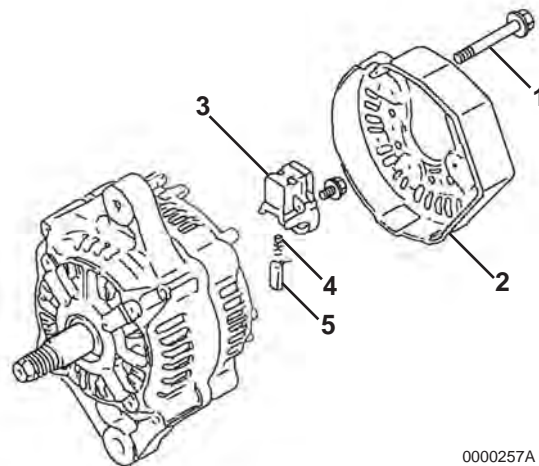

Figure 11-6
2. Remove the three bolts (**Figure 11-6, (1)**) retaining the rear cover (**Figure 11-6, (2)**) to the rear frame assembly.
3. Remove the brush holder (**Figure 11-6, (3)**). Remove the brush springs (**Figure 11-6, (4)**) and brushes (**Figure 11-6, (5)**).